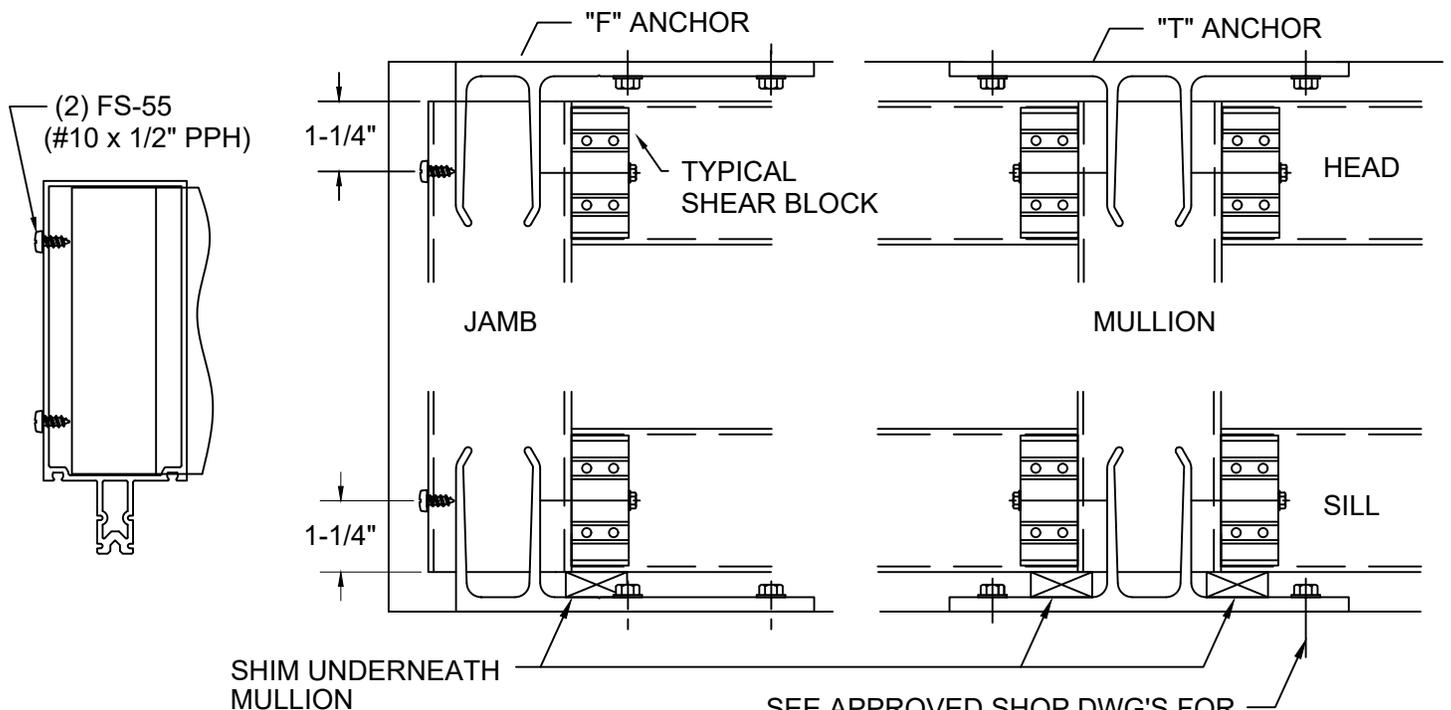

Figure 9
2.1.5 When using tee anchors, slide tee anchors into top and bottom of vertical mullions. The tee anchors are designed to clear the shear block fasteners. Prior to installation, when using jamb "F" anchor, install (2) FS-55 (#10 x 1/2" PPH) fasteners at each end of mullion to center F anchor in vertical. SEE FIGURE 9 BELOW.
- 2.1.15 Slide tee anchors into top of upper-most mullions. The tee anchors are designed to clear the shear block fasteners. See FIGURE 9, page 14. Attach tee anchor to building condition.